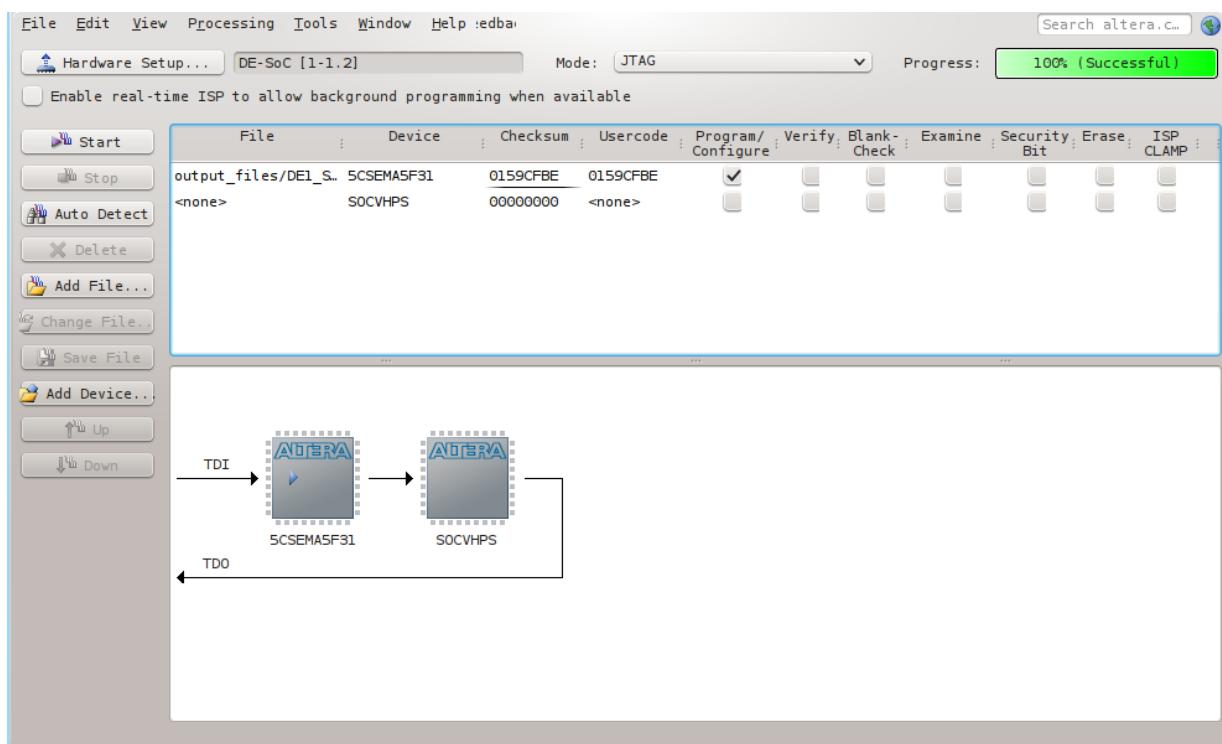

Figure 9-22. Programming the FPGA
46. Enable the “Program/Configure” checkbox for device “5CSEMA5F31”, then press the “Start” button, as shown in Figure 9-22.